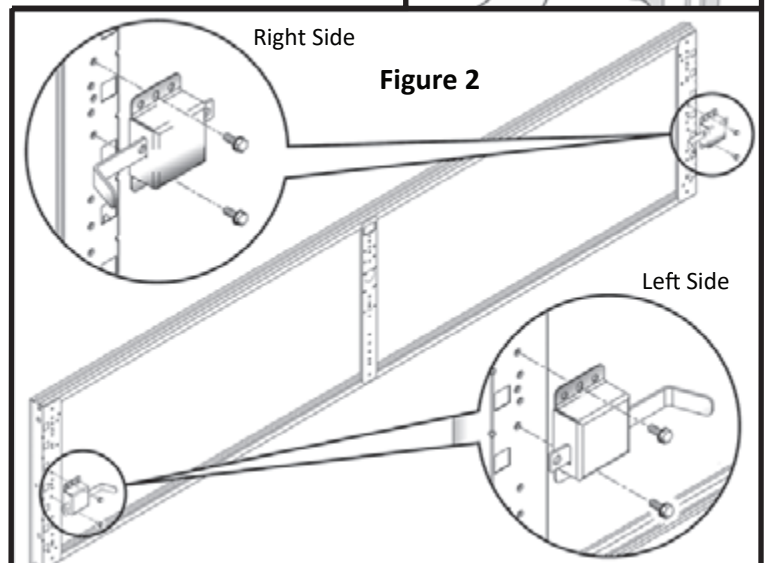
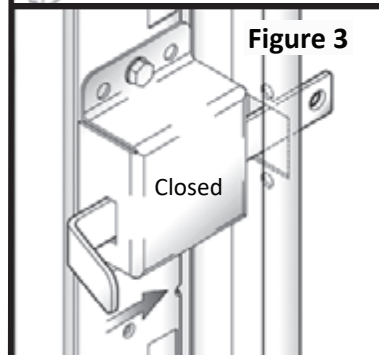
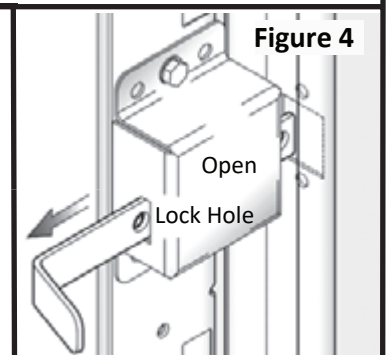

Figure 2
Figure 3
Figure 4
Step 2: With your door in the fully closed position, locate your lock so that the slide will line up with the center of this rectangular hole (Fig 3, Fig 4). Securely fasten the Slide Lock to the 2nd section with (2) 1/4"x5/8" Universal Screws (Fig 2). You may need to pre-drill 3/32" pilot holes if holes in the section do not line up with this location.
Step 3: With your door in the fully closed/down position, test the Slide Lock for ease of operation. Adjust the lock up or down if necessary (Fig 3, Fig 4).